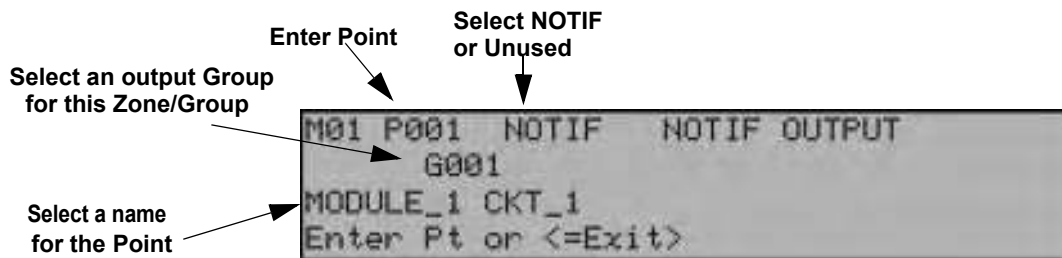

Figure 9-5 Programming Points as Outputs for the 5880 Module
12. Press the  or  arrows to select the desired function. (See Figure 9-5 on page 19), then press ENTER.
6. Press the  or  arrows to select the type (See Figure 9-5 on page 19). Then press ENTER.